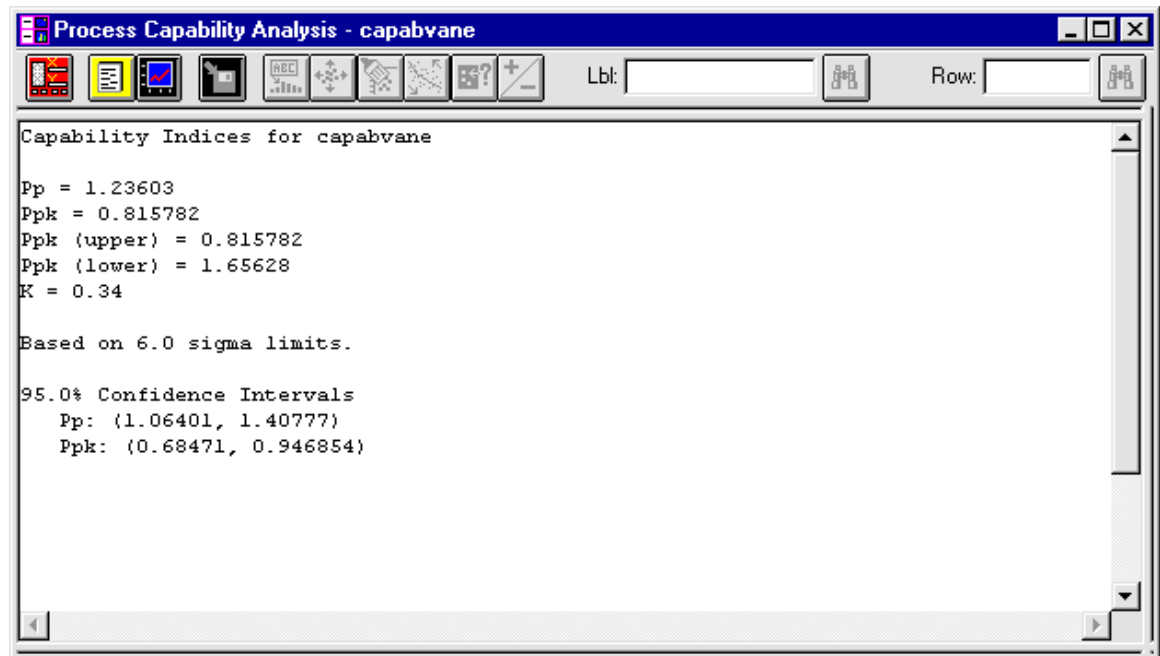

Figure 1-12. Capability Indices
5. Maximize the Capability Indices (the second text pane) (see Figure 1-12).